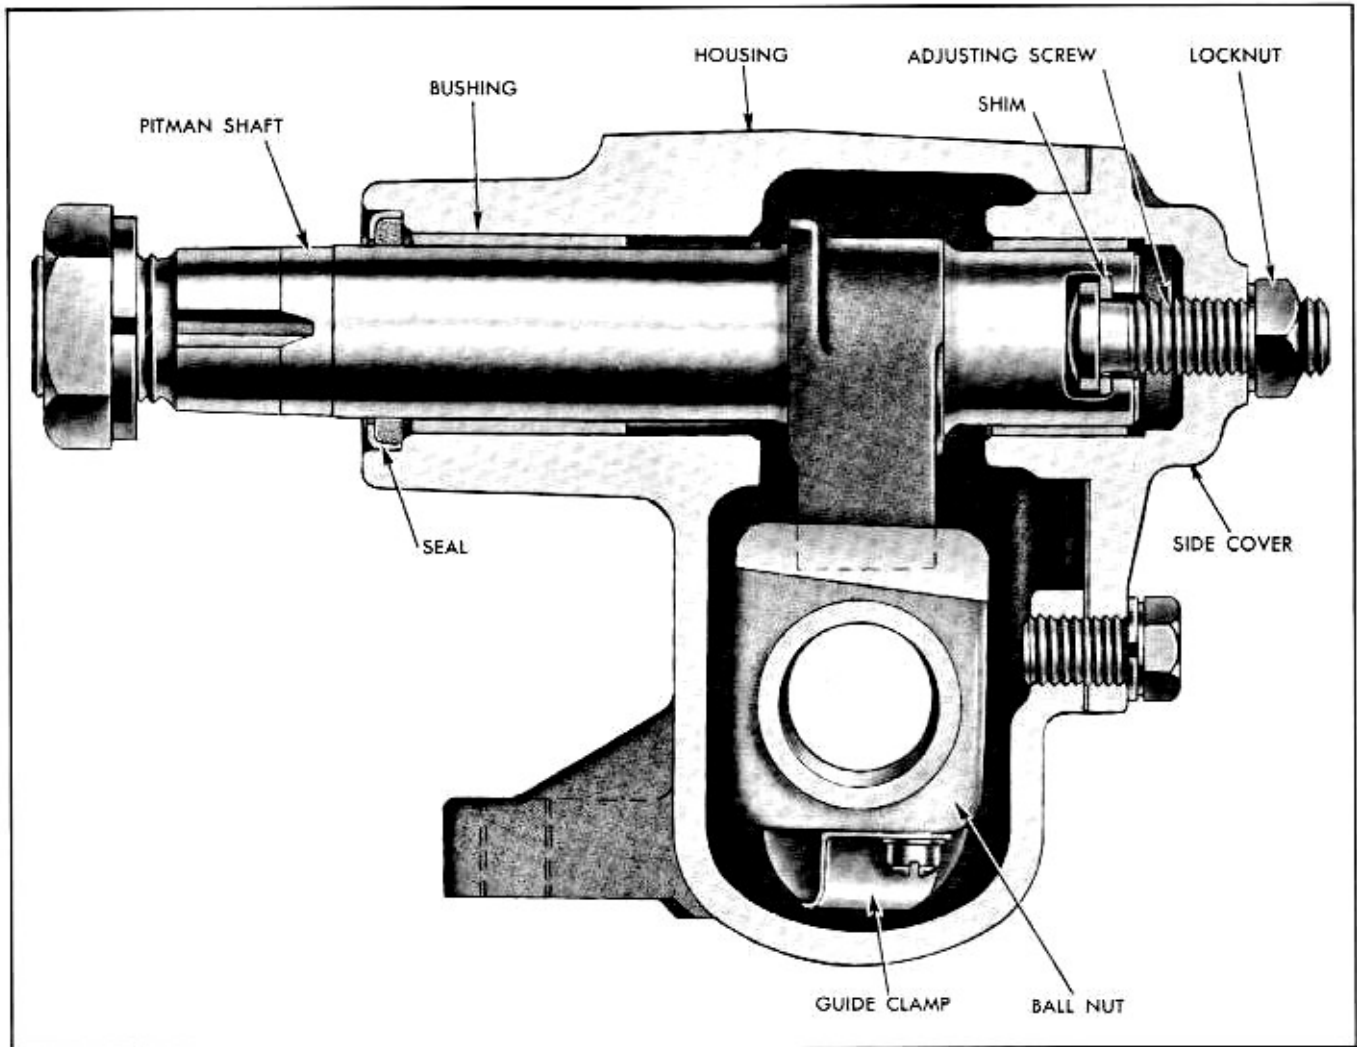

Fig. 9-15 Steering Gear Cut-away View
3. Install bushing with Tool J-1614, making sure bushing is flush with inner surface of housing (Fig. 9-15).